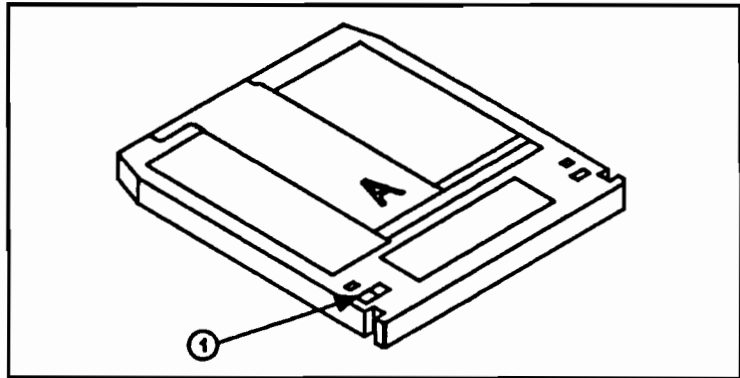

Figure 3-2. Magneto-Optical Disk
Each cartridge has a write-protect tab that you should not set. If you set this tab, both TurboSTORE/XL II and MOUTIL cannot use a disk for store or restore operations. Refer to item 1 in Figure 3-2 for the write-protect tab location.